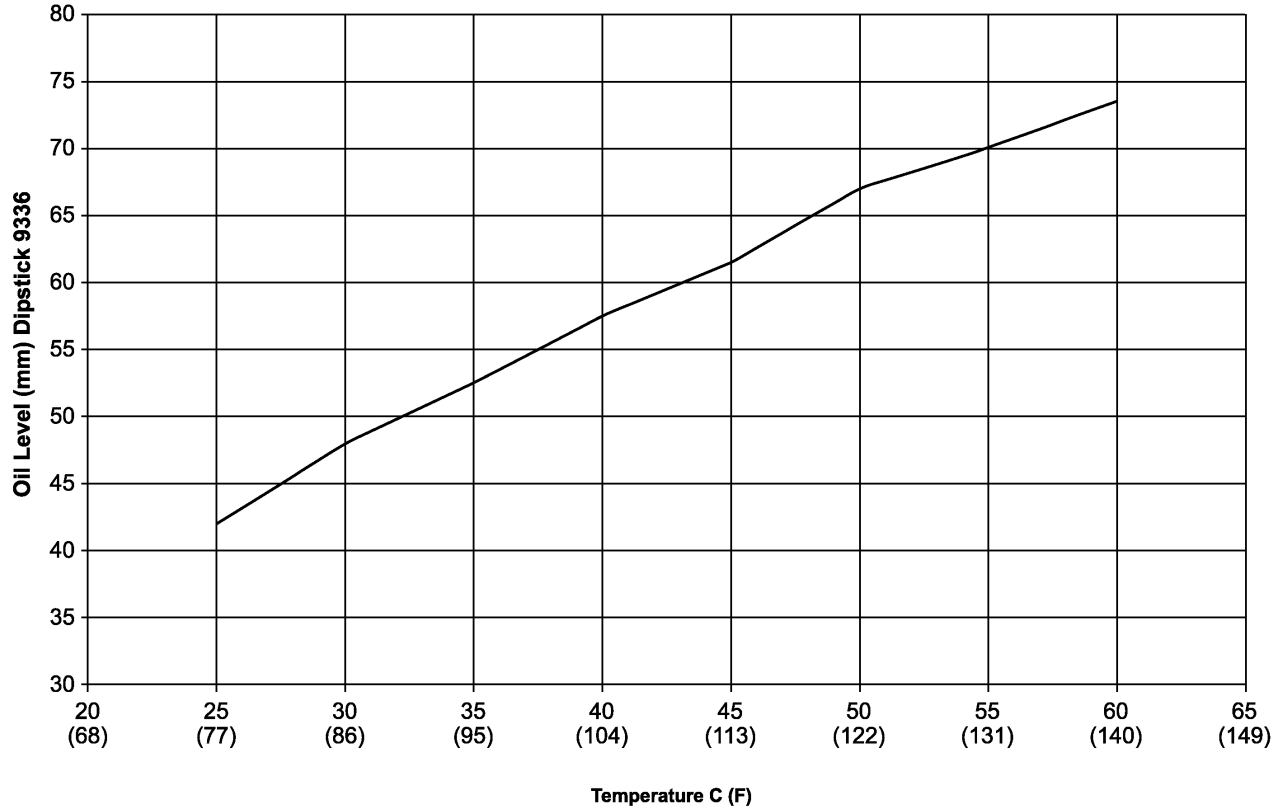
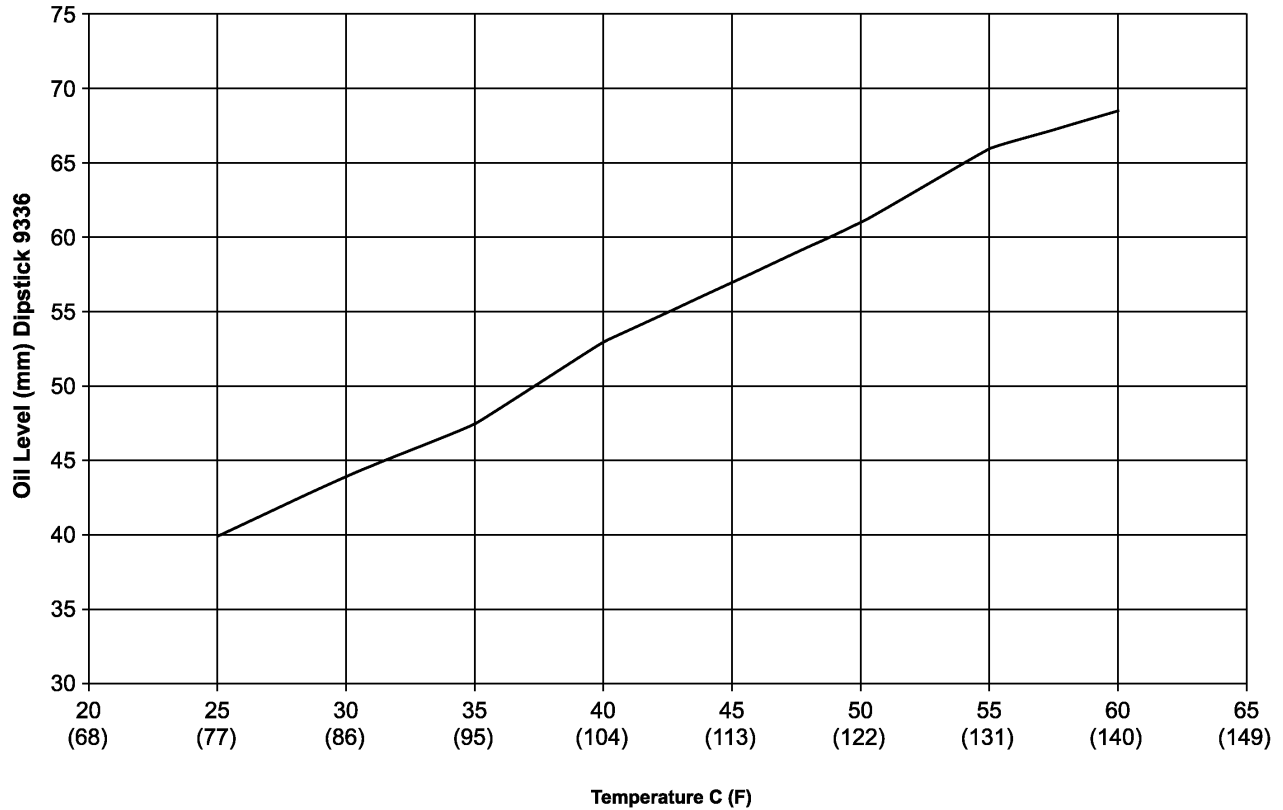

Fig. 1 LE OIL LEVEL/TEMP CHART
Fig. 2 WH/XH OIL LEVEL/TEMP CHART
8. The transmission Oil Dipstick 9336 has indicator marks every 10 mm. Determine the height of the oil level on the dipstick and use the following oil height/temp charts for LE (Fig. 1) or WH/XH (Fig. 2)